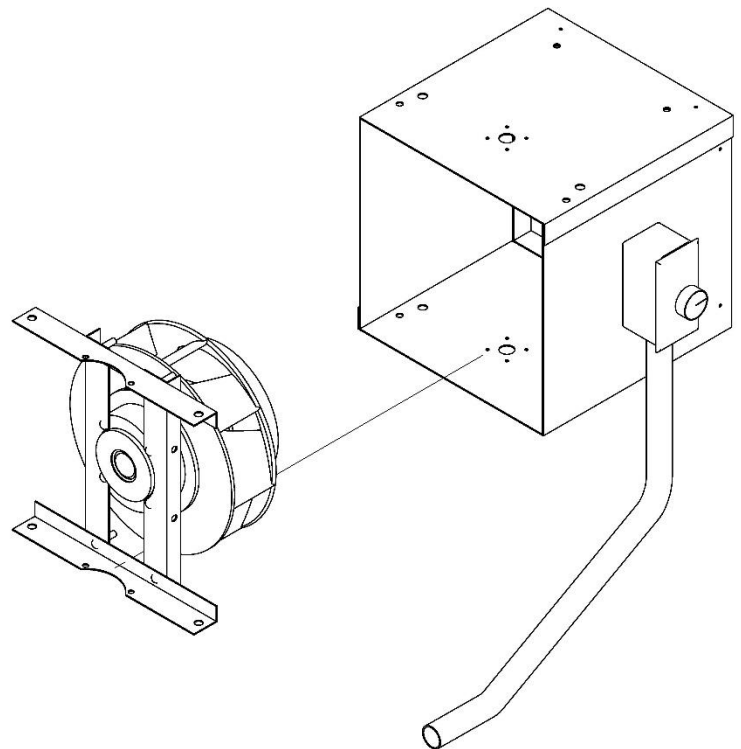

Figure 21
9.) Remove fan motor assembly from fan housing. See Figure 21.